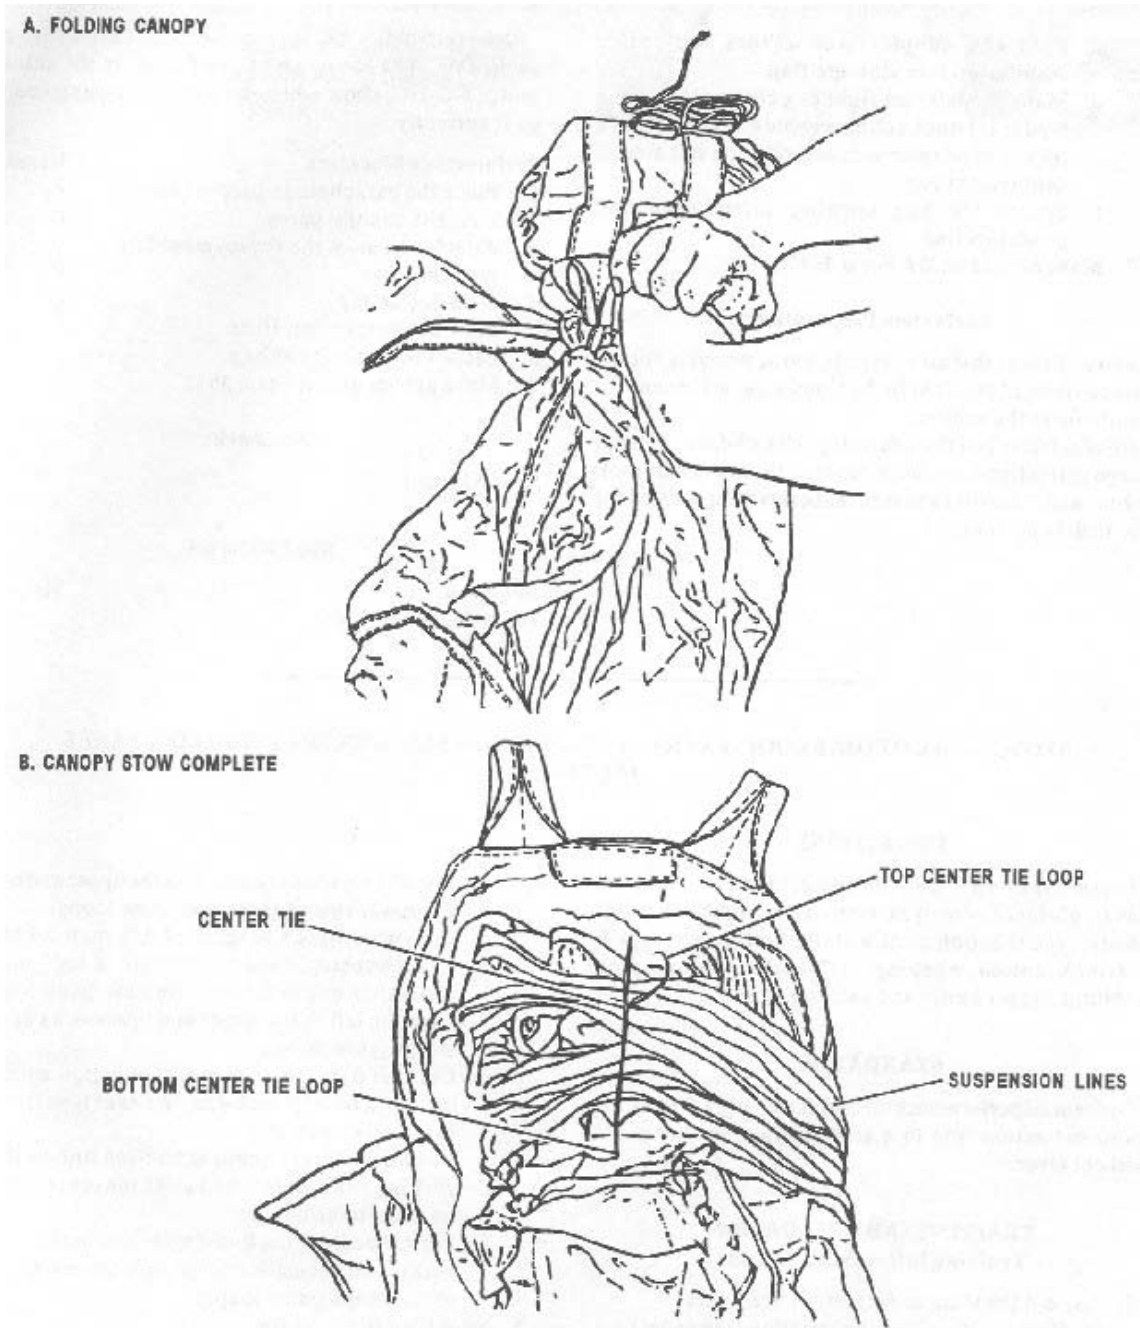

Figure 3-38
- b. Begin at the upper right inside corner of the deployment bag and S-fold the canopy into the bag. Make sure the suspension lines extend from the lower left side of the open end of the bag. (See Figure 3-38)
- d. Secure the top and bottom center bag tie loops together with a length of ticket number 5 or 8/7 cotton thread. (See Figure 3-38)